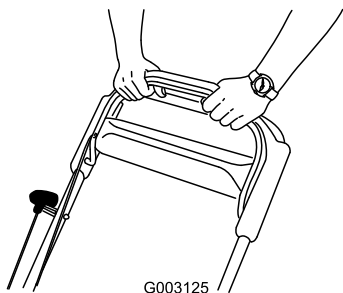

Figure 20
3. Hold the blade-control bar against the handle (Figure 20).